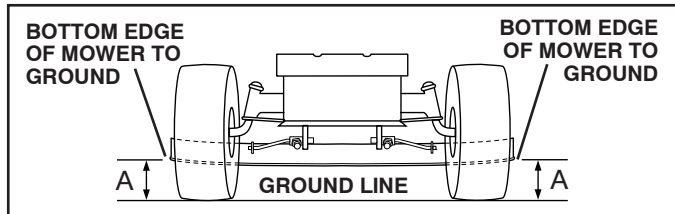

Fig. 15
**SIDE-TO-SIDE ADJUSTMENT** (See Figs. 15 and 16)